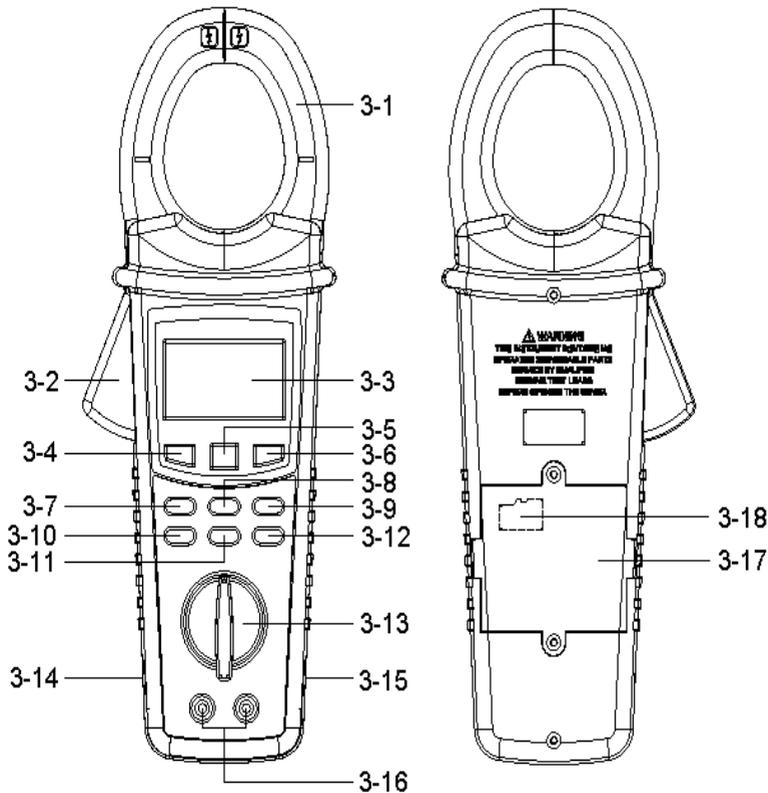

Fig.1
- 1) Function Rotary switch(3-13, Fig.1): Select the measurement function rotary switch.
- 2) FUNC KEY (3-4, Fig.1): Press the key to select the screen display.
- 3) HOLD KEY (3-5, Fig.1): Press the key to freeze the display reading.
- 4) REC KEY (3-6, Fig.1): The data record key for Sd Card.
- 5) SETUP(ENTER) KEY (3-7, Fig.1): Press the key to setup the function before measuring or select function input determine.
- 6) EXIT( \* ) KEY (3-9, Fig.1): Press the key to exit setting screen or measurement screen LCD backlight key .
- 7) ▲ KEY (3-8, Fig.1): Press the key to move the cursor up in setting screen.
- 8) ▼ KEY (3-11, Fig.1): Press the key to move the cursor down in setting screen.
- 9) ◀ KEY (3-10, Fig.1): Press the key to move the cursor left in setting screen or harmonic analysis left Key.
- 10) ▶ KEY (3-12, Fig.1): Press the key to move the cursor right in setting screen or harmonic analysis right Key.